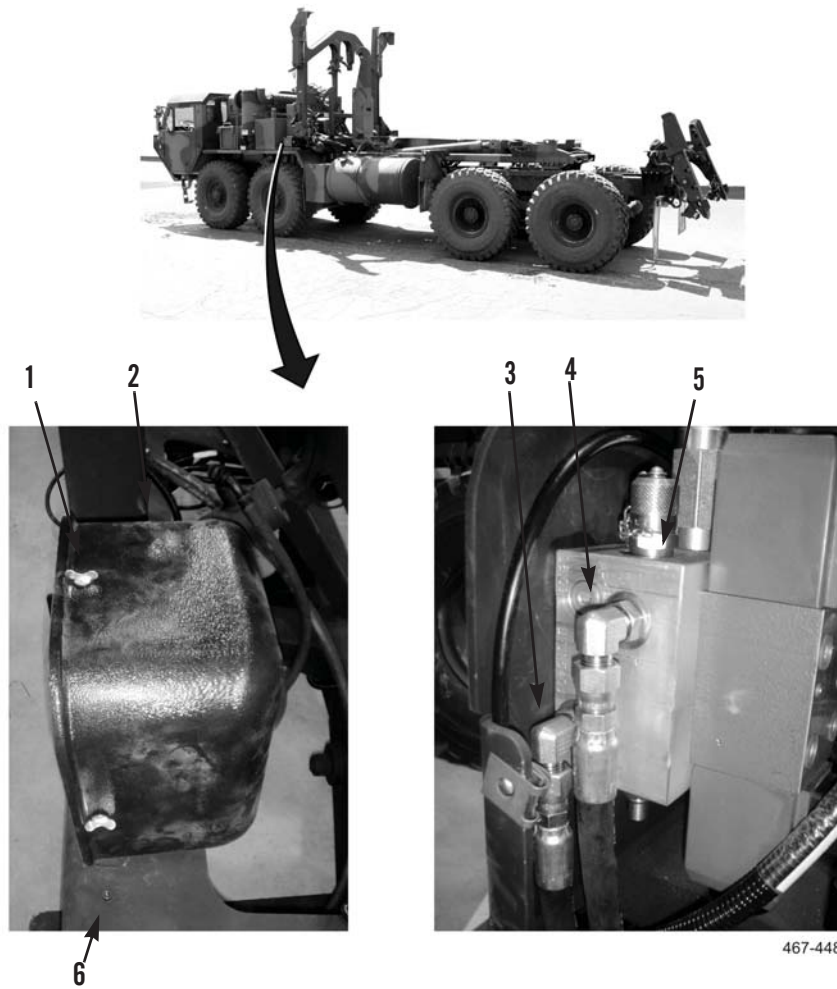

Figure 9. Identify Stowage Hydraulic Hoses.
21. Loosen three locking pins (Figure 9, Item 1) and remove manifold cover (Figure 9, Item 2) from stowage assembly (Figure 9, Item 6).
22. Identify pressure hose (Figure 9, Item 4) and relief hose (Figure 9, Item 3) based on markings on manifold (Figure 9, Item 5).